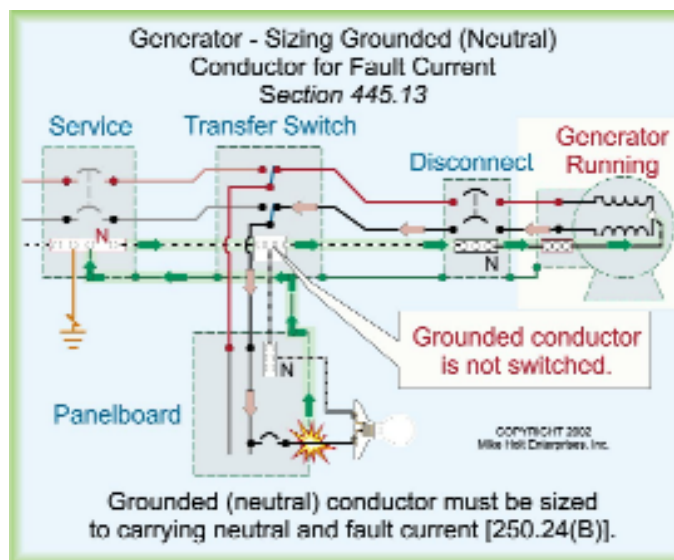

Figure 250-52
**FPN 2:** If the generator transfer switch does not open the grounded (neutral) conductor, then the grounded (neutral) conductor will be required to carry fault current back to the generator. Under this condition, the grounded (neutral) conductor shall be sized no smaller than required for the unbalanced load by 220.22 and in addition, it shall be sized no smaller than required by 250.24(B) [445.13]. Figure 250-52